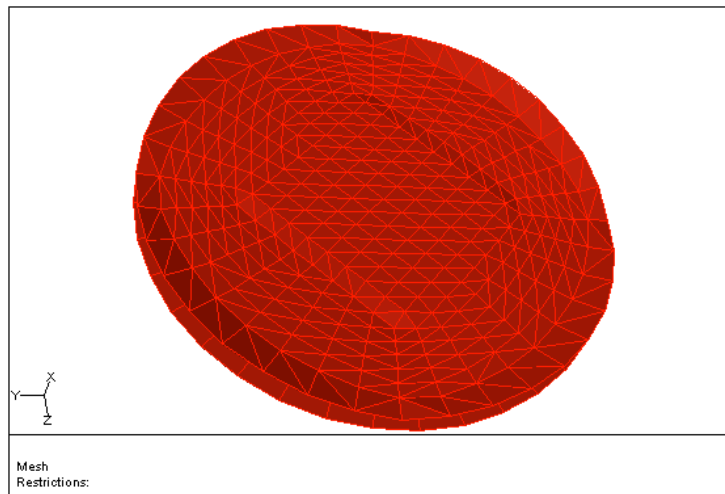

Figure 3.4: Filled Pyramid Cap
- (d) Click **Display** and manipulate the display to obtain the view shown in Figure 3.4.